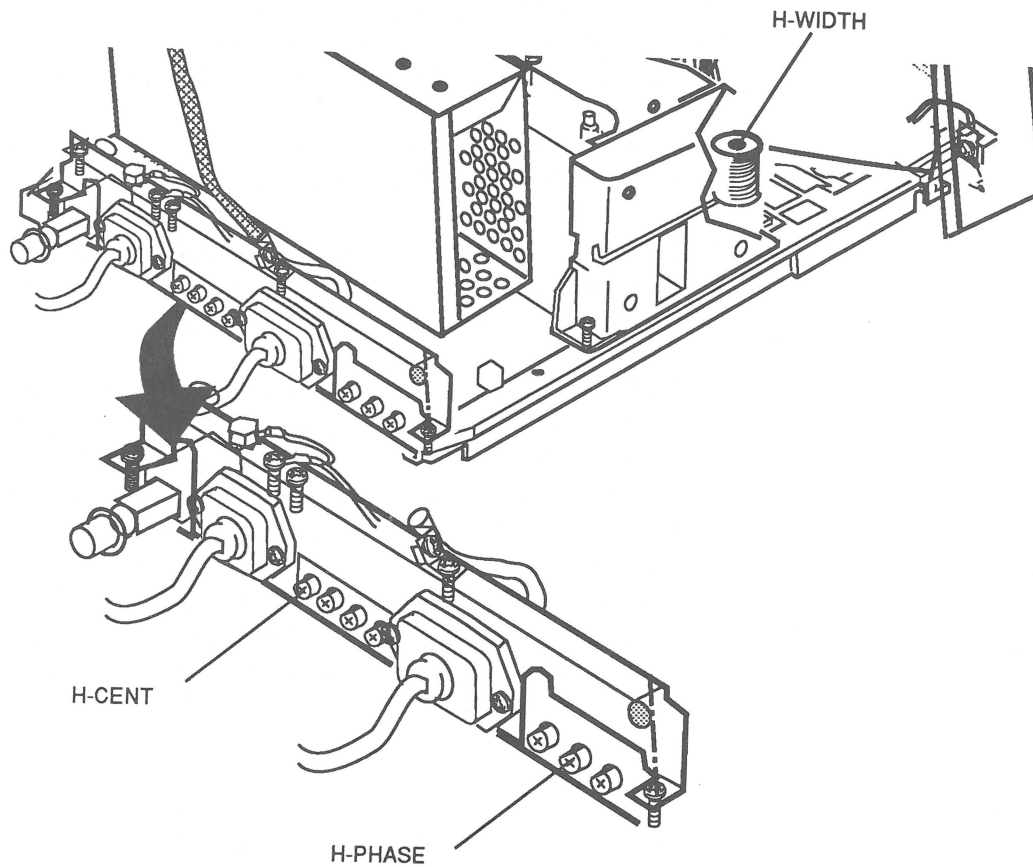

Figure 3-12 Horizontal Centering and Size Controls
4. **Figure 3-12.** Using the plastic adjustment tool, turn the H-PHASE control (VR501) until the raster is positioned at the **visual midpoint** of the range of the H-PHASE control.
5. **Figure 3-12.** Using the plastic adjustment tool, turn the H-CENT control (VR503) until the raster is positioned in the approximate center of the screen.
3. **Figure 3-12.** Using the hex-head insulated adjustment tool, turn the H-WIDTH control (L501) until the raster is 205 mm (± 2 mm) or 8 $\frac{3}{32}$ " ($\pm \frac{1}{16}$ ") wide.